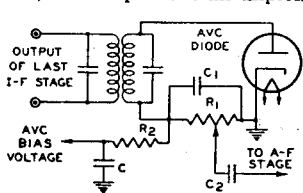
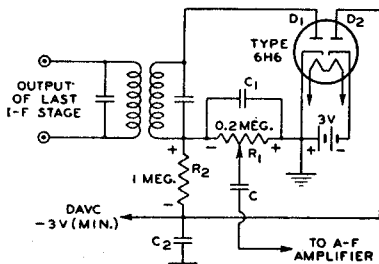
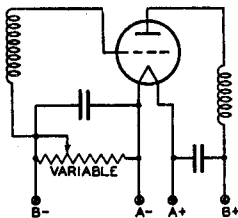
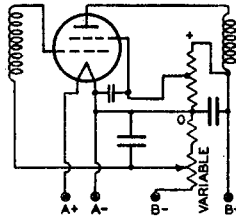

Fig. 41
Fig. 42
Fig. 55
Fig. 57
The avc circuit reduces the r-f and i-f gain for a strong signal usually by increasing the negative bias of the r-f, i-f, and frequency-mixer stages when the signal increases. A simple avc circuit is shown in Fig. 41. On each positive half-cycle of the signal voltage, when the diode plate is positive with respect to the cathode, the diode passes current. Because of the flow of diode current through R_1 , there is a voltage drop across R_1 , which makes the left end of R_1 negative with respect to ground. This voltage drop across R_1 is applied, through the filter R_2 and C , as negative bias on the grids of the preceding stages. Then, when the signal strength at the antenna increases, the signal applied to the avc diode increases, the voltage drop across R_1 increases, the negative bias voltage applied to the r-f and i-f stages increases, and the gain of the r-f and i-f stages is decreased. Thus the increase in signal strength at the antenna does not produce as much increase in the output of the last i-f stage as it would produce without avc. When the signal strength at the antenna decreases from a previous steady value, the avc circuit acts, of course, in the reverse direction, applying less negative bias, permitting the r-f and i-f gain to increase, and thus reducing the decrease in the signal output of the last i-f stage. In this way, when the signal strength at the antenna changes, the avc circuit acts to prevent change in the output of the last i-f stage, and thus acts to prevent change in loudspeaker volume.
In the circuit shown in Fig. 41, a certain amount of avc negative bias is applied to the preceding stages on a weak signal. Since it may be desirable to maintain the receiver's r-f and i-f gain at the maximum possible value for a weak signal, avc circuits are designed in some cases to apply no avc bias until the signal strength exceeds a certain value. These avc circuits are known as delayed avc, or, d-avc circuits. A d-avc circuit is shown in Fig. 42. In this circuit, the diode section D_1 of the 6H6 acts as detector and avc diode. R_1 is the diode load resistor and R_2 and C_1 are the avc filter. Because the cathode of diode D_2 is returned through a fixed supply of -3 volts to the cathode of D_1 , a d-c current flows through R_1 and R_2 in series with D_2 . The voltage drop caused by this current places the avc lead at approximately -3 volts (less the negligible drop through D_2). When the average amplitude of the rectified signal developed across R_1 does not exceed 3 volts, the avc lead remains at -3 volts. Hence, for signals not strong enough to develop 3 volts across R_1 , the bias applied to the controlled tubes stays constant at a value giving high sensitivity. However, when the average amplitude of rectified signal voltage across R_1 exceeds 3 volts, the plate of diode D_2 becomes more negative than the cathode of D_2 and current flow in diode D_2 ceases. The potential of the avc lead is then controlled by the voltage developed across R_1 . Therefore, with further increase in signal strength, the avc circuit applies an increasing avc bias voltage to the controlled stages. In this way, the circuit regulates the receiver's gain for strong signals, but permits the gain to stay constant at a maximum value for weak signals.
It can be seen in Fig. 42 that a portion of the -3 volts delay voltage is applied to the plate of the detector diode D_1 , this portion being approximately equal to $R_1/(R_1 + R_2)$ times -3 volts. Hence, with the circuit constants as shown, the detector plate is made negative with respect to its cathode by approximately one-half volt. However, this voltage does not interfere with detection because it is not large enough to prevent current flow in the tube.
Grid-bias variation for the r-f and i-f amplifier stages is a convenient and frequently used method for controlling receiver volume. The variable voltage supplied to the grid may be obtained: (1) from a variable cathode resistor as shown in Figs. 55 and 56; (2) from a bleeder circuit by means of a potentiometer as shown in Fig. 57 or (3) from a bleeder circuit in which the bleeder current is varied by a tube used for automatic volume control. The latter circuit is shown in Fig. 41. In all cases it is important that the control be arranged so that at no time will the bias be less than the recommended grid-bias voltage for the particular tubes used. This requirement can be met by providing a fixed stop on the potentiometer, by connecting a fixed resistance in series with the variable resistance, or by connecting a fixed cathode resistance in series with the variable resistance used for regulation.